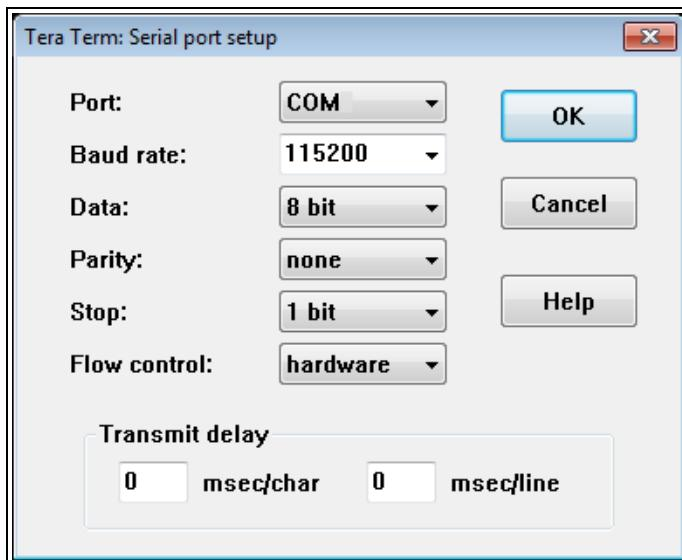

Figure 31: Tera Term: Serial Port Setup dialog box with Default Z9-T-DEVKIT Settings
7. **Important:** Verify, and change if required, the Tera Term serial port settings (except the **Port** setting) of the connected Z9-T-DEVKIT so the settings are the same as the defaults shown in Figure 31.